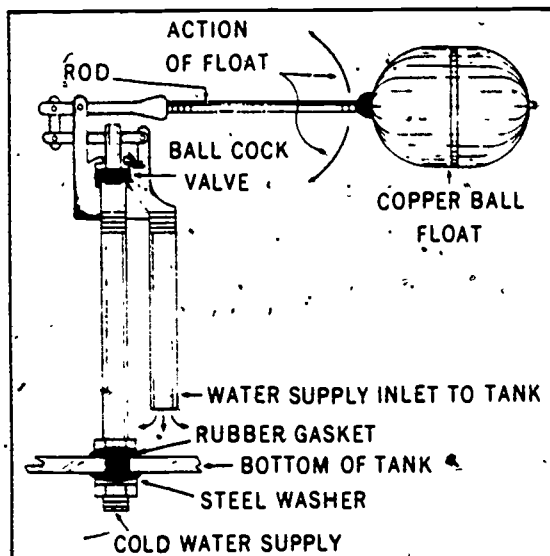

Figure 1-45. Water closet float-controlled valve.
a. Water closet float-controlled valve. The water closet float-controlled valve, shown in figure 1-45, controls the flow of water into the flush tank. The